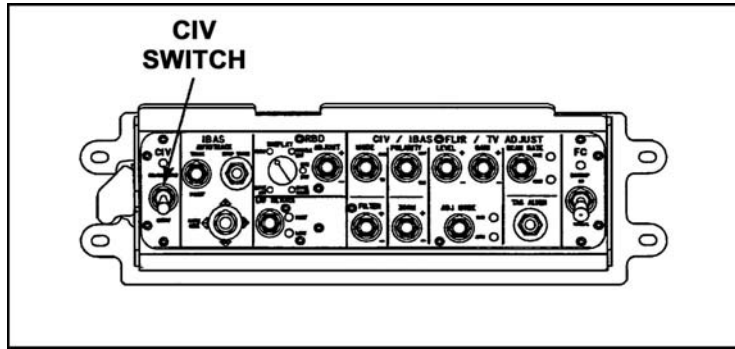

Figure 7. CIV UNSTOW/STOW switch.
- i. Unstow the commander's independent viewer (CIV) (Figure 7).